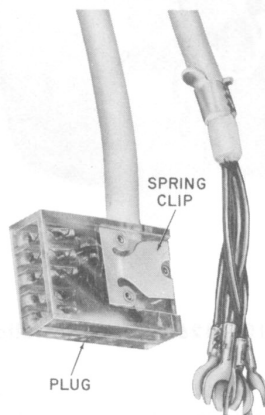

Fig. 7—D5AL Mounting Cord
**3.07** Insert the plug end of the D5AL or D5AN mounting cord (Fig. 7) into the jack located on the underside of the base assembly. ***Make sure that the spring clip of the plug snaps into place to secure the plug.*** Lay the cord in the cord channel and slide the cord retainer over the cord.